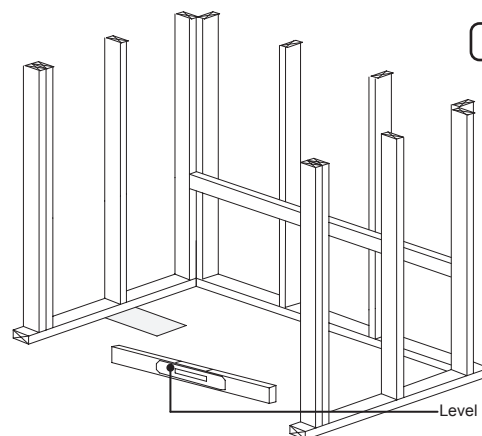

Fig. 3
1. Make sure framed-in alcove is of proper size per Jacuzzi dimensions, square, and plumb; check floor for levelness (Figure 3). Rough-in should be kept to a minimum until the unit is on the job site. Measurements may vary +0 or -.25" from original specifications.